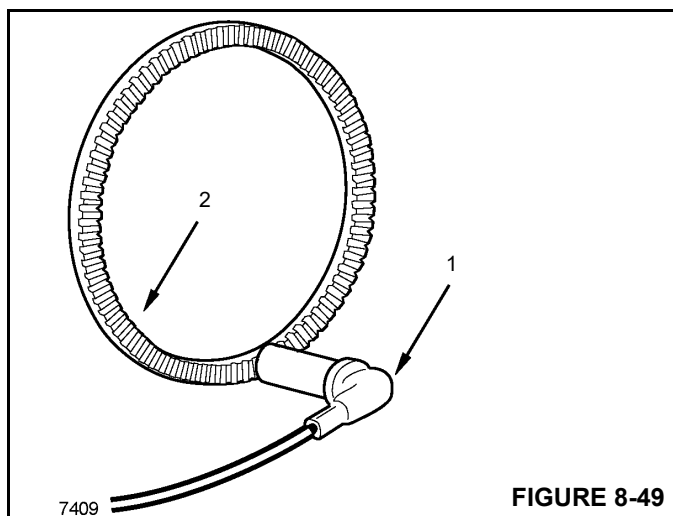

FIGURE 8-49
Wheel rotation is determined by an electronic sensor (1) (Figure 8-49) mounted in the brake spider. A signal is generated by the sensor as high spots on a tooth wheel (2) pass by the sensor. The tooth wheel is either mounted on or is part of the wheel hub.